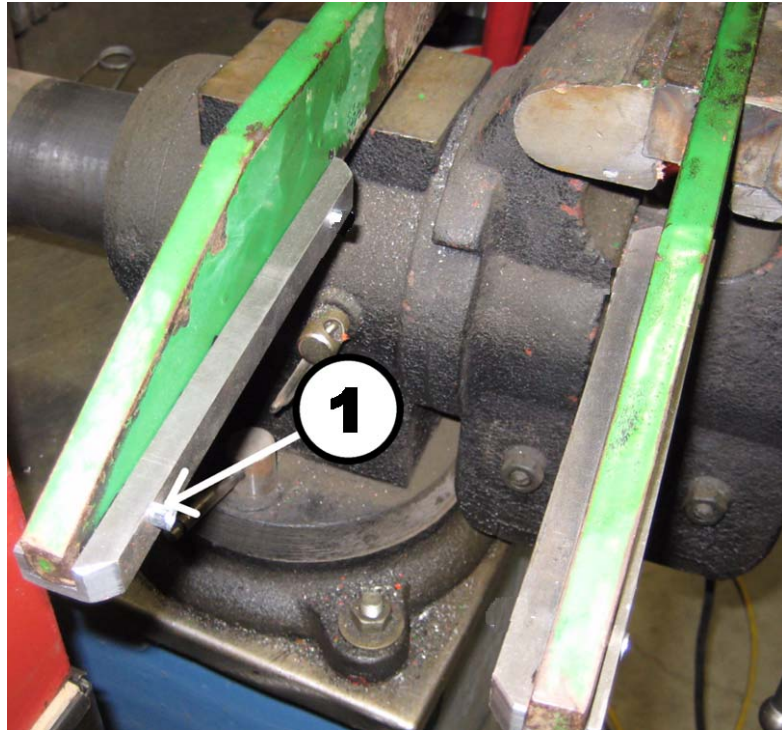

Figure 2. Installation of Roll Pins
- Key 3 – Mark four (4) holes for drilling
Install four (4) 64247 Roll Pins through the extensions and fingers as indicated in Figure 2.